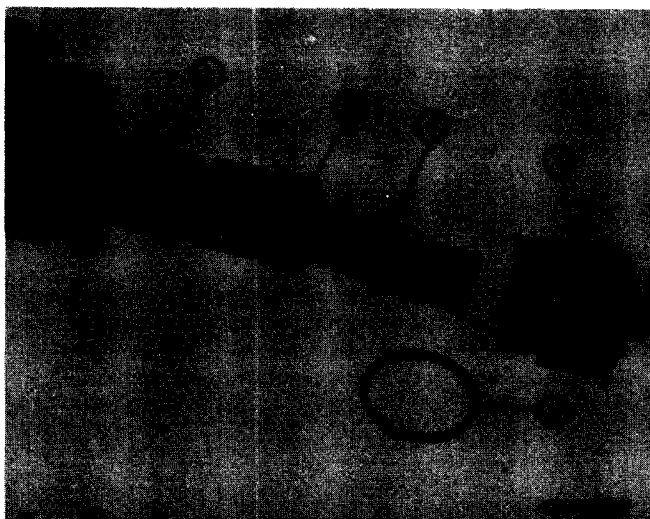

Figure 11-50
Unscrew cap (4, Fig. 11-50) and remove spring (3) from bore of plunger assembly (1). Carefully slide plunger from valve body. Do not allow plunger to cock in valve bore, as damage to plunger or valve bore surfaces may result. Remove retaining ring (2) from plunger and seal ring (5) from cap. Discard used seal ring.
Install retaining ring (2, Fig. 11-50) on plunger assembly (1). Coat plunger with clean hydraulic oil and carefully slide plunger into valve bore. Do not force plunger or allow it to cock in valve bore. Lubricate a new seal ring (5) and install in groove of cap (4). Insert spring (3) into plunger bore and place cap over spring. Thread cap into valve bore and tighten securely.